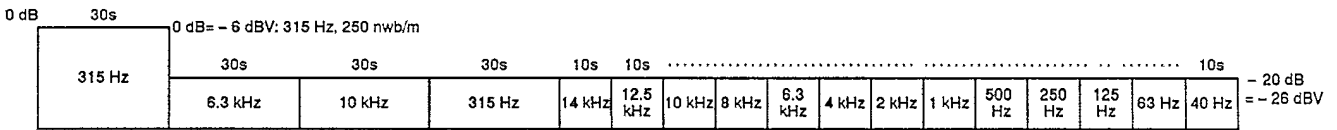

Fig. 4 Constants of the test tape STD-331E
- STD-331E : Playback adjustments (See Fig. 4)